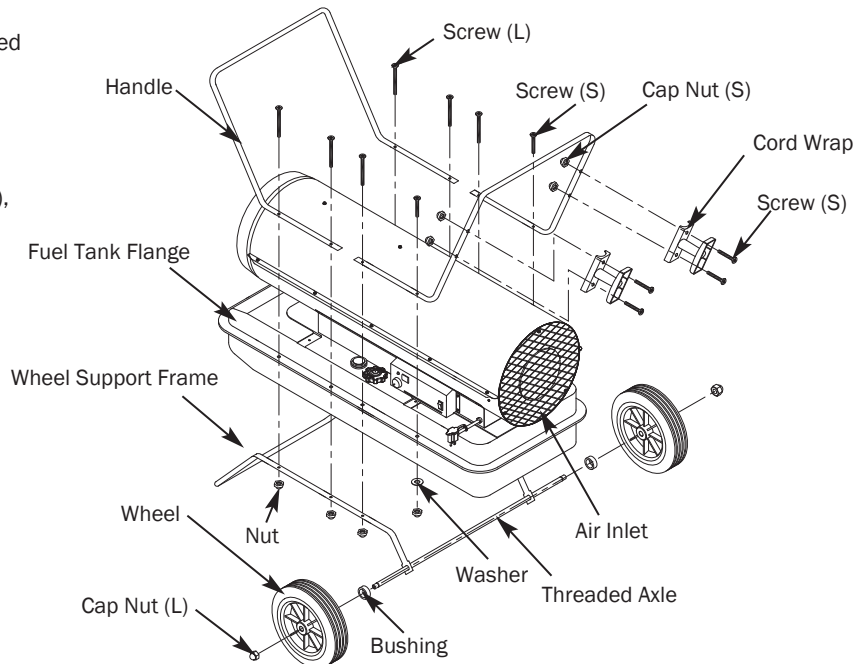

Figure 4 – Wheel and Handle Assembly
Make sure air inlet end (rear) of heater is over wheels. Align the holes on fuel tank flange. Insert screws(L) through handles (front and Rear), fuel tank flange, and wheel support frame. Insert screws(S) through rear handle, fuel tank flange, and washer(S) as shown in figure 4 and attach nut finger tight after each screw is inserted.
7. Insert screws through cord wrap, rear handle as shown in Figure 4 and attach nut finger tight after each screw is inserted.